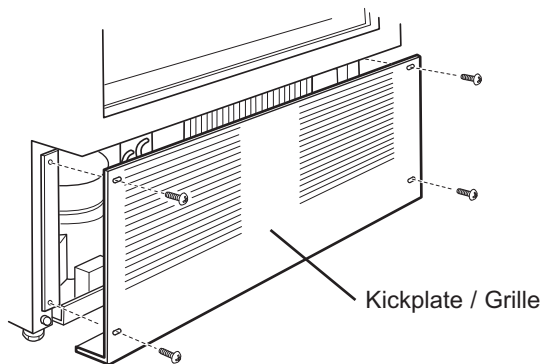
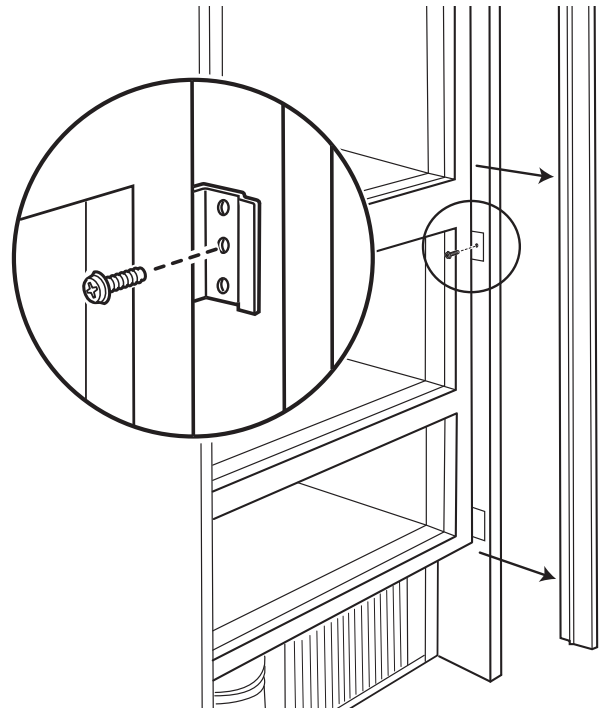

Figure 2-1. Kickplate/Grille Removal
Figure 2-2. Side Molding & Bracket
**NOTE:** The kickplate/grille must be removed before leveling (See Figure 2-1). If the unit has already been anchored to the cabinets, the side molding strips must be removed and the anchor screws must be extracted from the unit to cabinet brackets before leveling (See Figure 2-2). These components must be reinstalled after leveling.